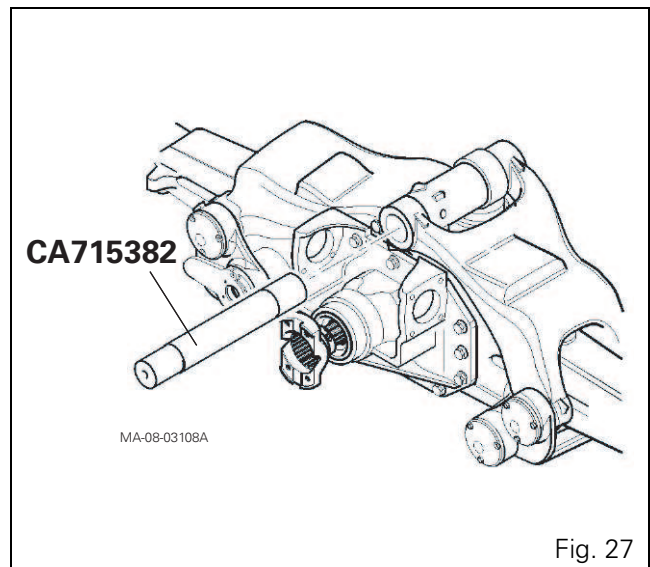

Fig. 27
29. Align the holes in the central pivot pin on the upper arms by inserting locating pin ref. CA715382 (Fig. 27).